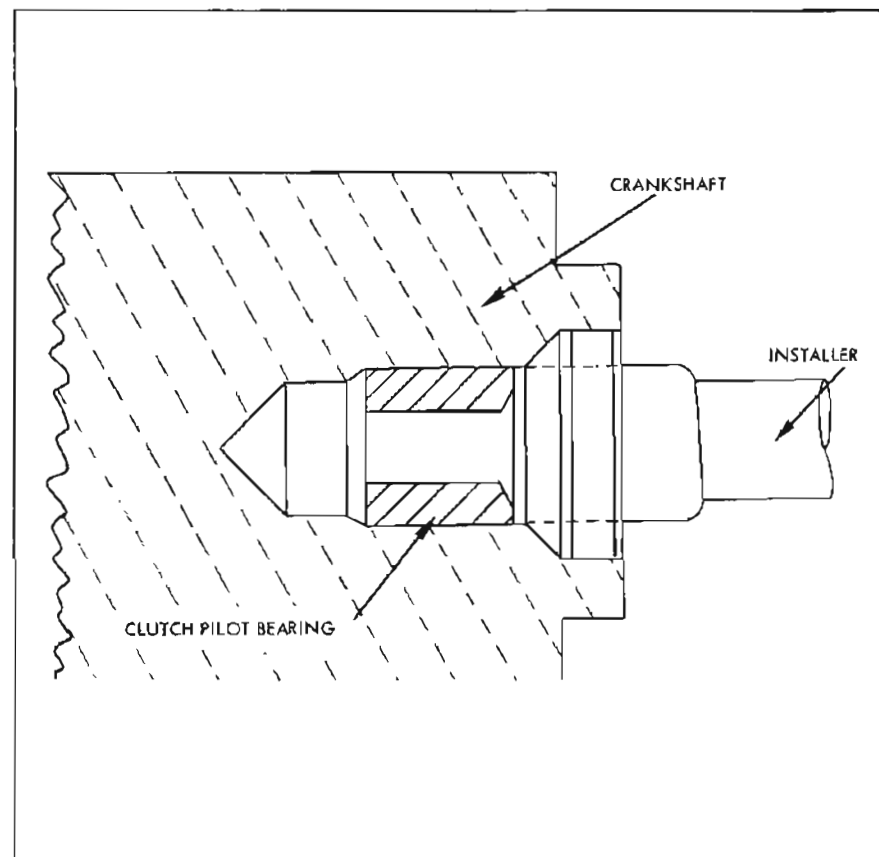

Figure 4-4—Pilot Bearing Removal & Installation
5. Check clutch pilot bearing for excessive wear or damage. If replacement is necessary, remove bearing with J-1448. For bearing replacement, use J-1522. See Figure 4-4.